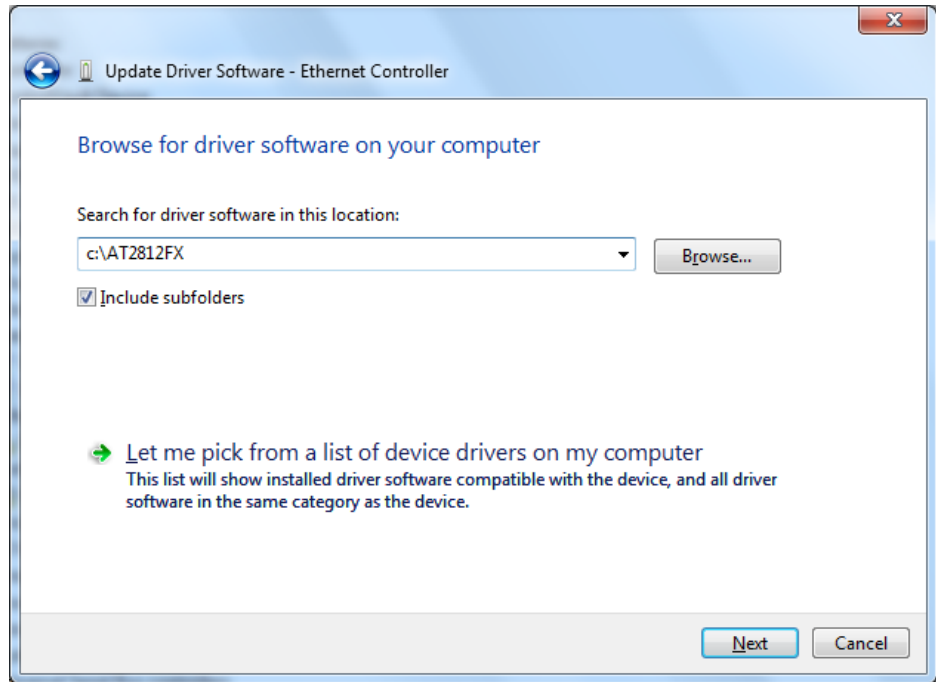

Figure 29. Update Driver Software - Ethernet Controller Window: Browse for driver software
The Update Driver Software - Ethernet Controller window is displayed. See Figure 29 on page 59.
5. Browse your computer for the location of the driver software. See Figure 29.